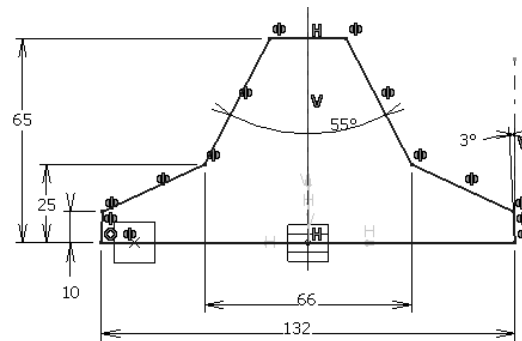

Figure 6-78 Sketch of the base feature
5. Invoke the **Sketcher** workbench after selecting the newly created plane as the sketching plane and draw the sketch of the base feature, as shown in Figure 6-78.